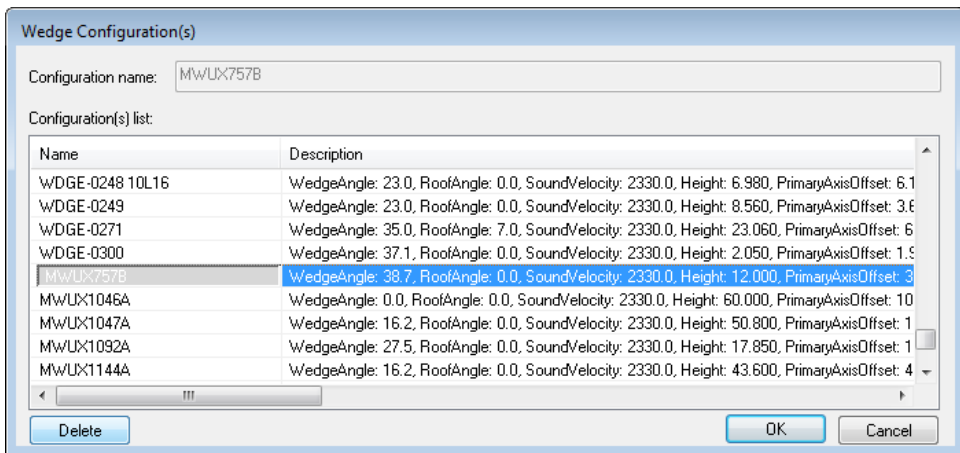

Figure 10-9 Deleting with the Wedge Configuration dialog box
3. Click **OK** to close the dialog box (see Figure 10-9 on page 140).